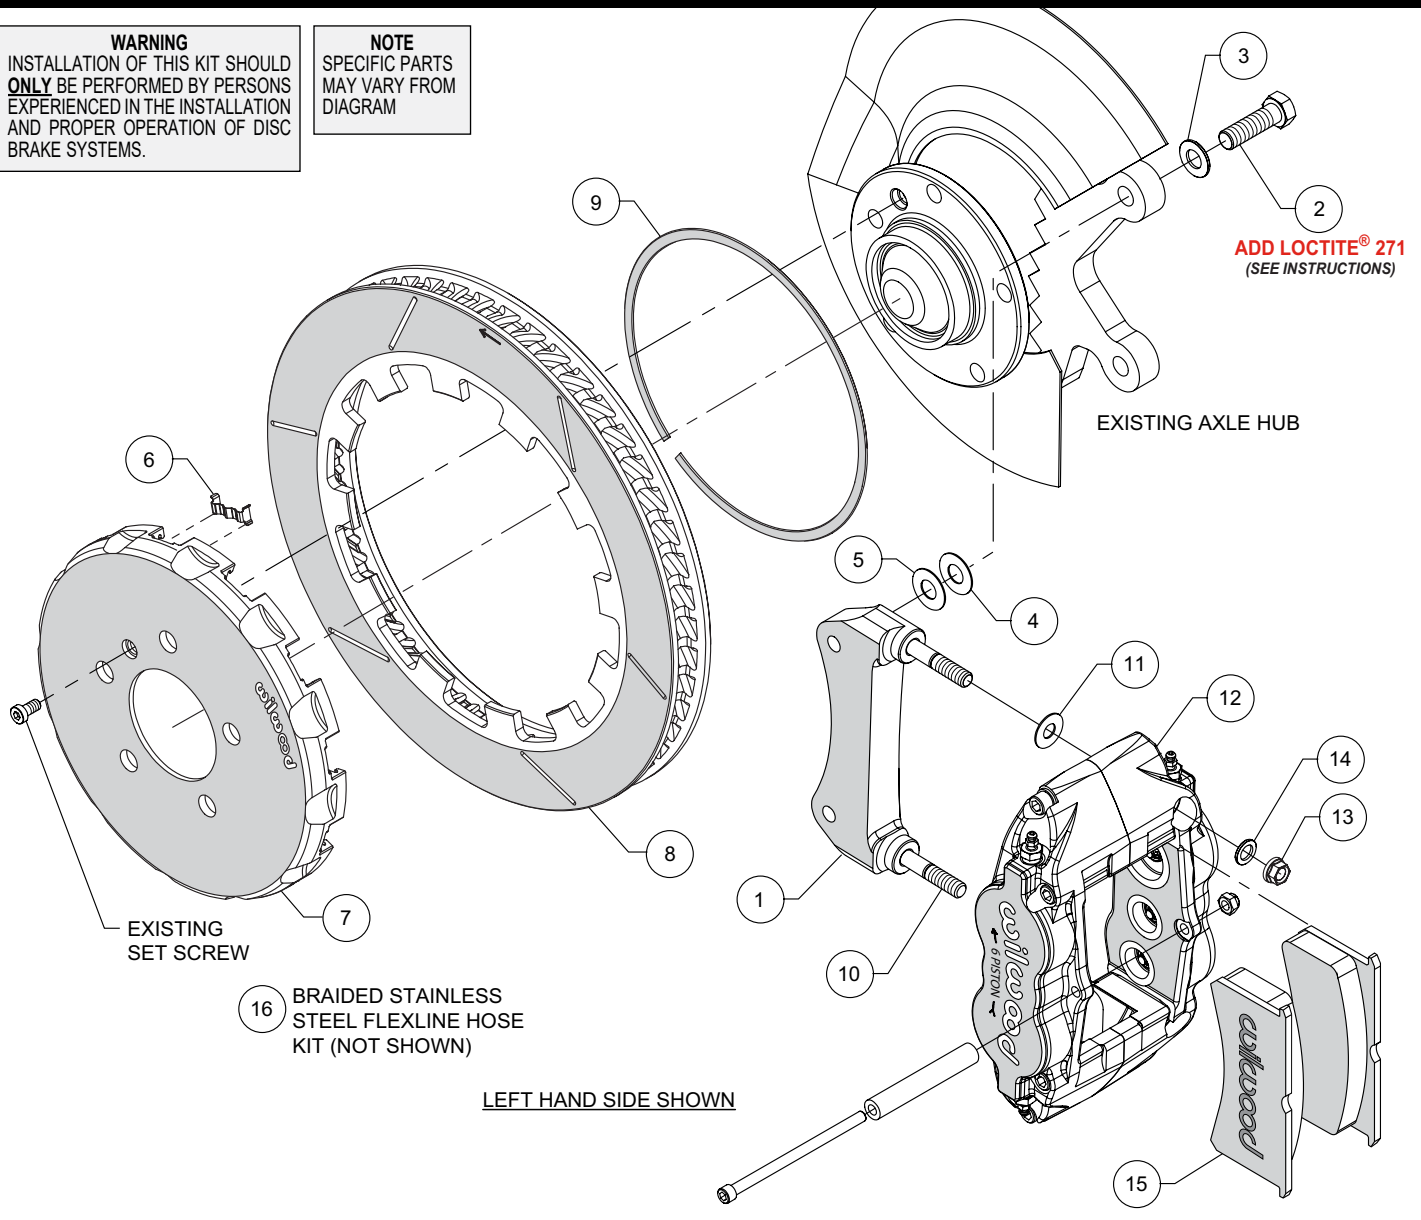

Figure 1. Typical Installation Configuration
NOTE: Numbers in parenthesis refer to the parts list and Figure 1 on the preceding pages.
- The caliper mount bracket (1) should initially be installed with clean, dry threads on the mounting bolts. Orient the bracket, as shown in Figure 1 and Photo 1, and install using bolts (2) and washers (3). Initially place one .033" thick shim (4) on each bolt between the bracket and upright, Figure 1. Temporarily tighten the mounting bolts. **NOTE:** *The bracket must fit squarely against the mount bosses on the upright.* Inspect for interference from casting irregularities, machining ridges, burrs, etc. Later, after the caliper alignment has been checked, the mount bolts will be secured using red Loctite® 271.
- Insert the dynamic mount wear clips (6) into the slots in the hat (7), Photo 2. Orient the rotor (8) as shown in Figure 1 and Photo 3, with the flush side of mount lugs facing the hat. Secure the rotor to the hat using the snap ring (9) by simultaneously pushing down on the rotor and installing the ring into the groove in the hat, as shown in Photo 4. Carefully inspect snap ring to ensure complete engagement in the groove.
- NOTE:** *This kit contains distinct right and left hand calipers that must be mounted in a specific direction, as described below.* Initially place one .035" thick shim (11) on each stud (10) between the caliper (12) and the bracket (1), as shown in Figure 1 and Photo 6. Mount the caliper (12) onto the bracket (1) using lock nuts (13) and washers (14), Figure 1. Ensure that the caliper is mounted so the largest pistons are at the rotor exit end of the caliper, in relation to the forward rotation of the rotor. Temporarily tighten the lock nuts and view the rotor through the top opening of the caliper. The rotor should be centered in the caliper, Photo 7. If not, adjust by adding or subtracting shims (4 and/or 5) between the bracket and the upright. Always use the same amount of shims on each of the two mounting bolts. Once the caliper alignment is correct, remove the bracket mounting bolts (2) one at a time, apply red Loctite® 271 to the threads, and torque to 60 ft-lb.
- Remove the caliper pad retainer bolt, nut, and tube from the caliper. Insert the brake pads (15) into the caliper, with the friction material facing the rotor, as shown in Photo 8. Check that the top of the brake pad is flush with the outside diameter of the rotor, Photo 9. If not, adjust by adding or subtracting shims (11) between the caliper and the bracket. After the caliper pad height is set, torque the caliper lock nuts (13) to 30 ft-lb. Secure the brake pads in place with the pad retainer tube, bolt, and locknut, Photo 10. The locknut should be snug without play in the bolt or tube. Be cautious not to over tighten.